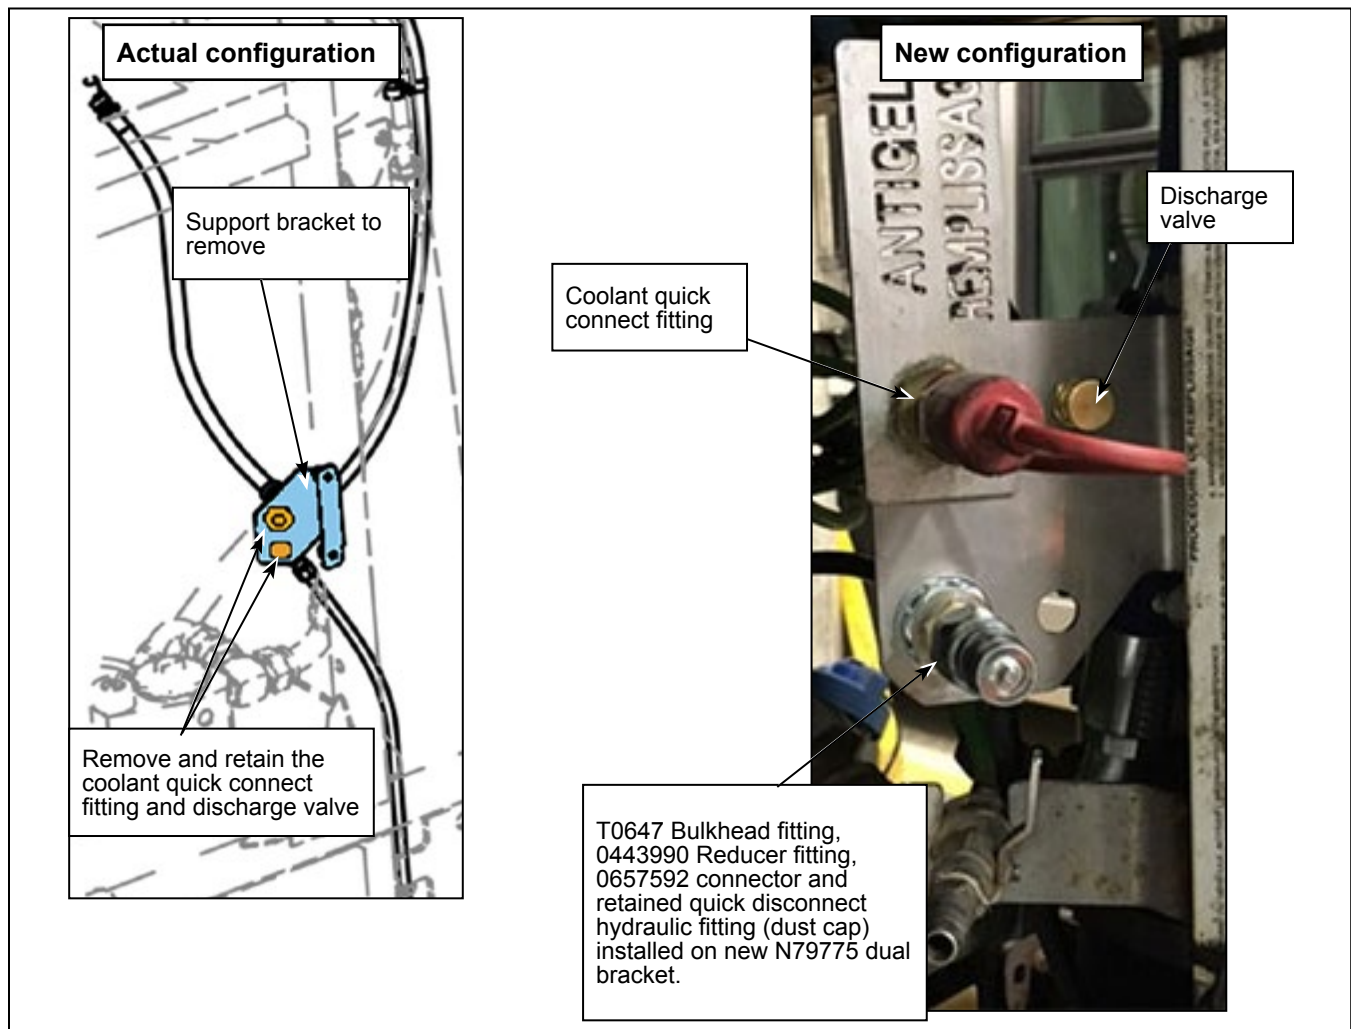

Figure 10 - Original Bracket to Remove and New N79775 Dual Bracket Installed
- 1.40. Remove the push button (N30612) from the discharge valve and remove the discharge valve from the support bracket. Retain the parts. See Figure 10.
- 1.42. Remove the coolant quick connect fitting from support bracket. See Figure 10.
- 1.43. Remove the support bracket from the frame. Retain the hardware. See Figure 10.
- 1.44. Install the new N79775 dual bracket on the frame using the retained hardware. See Figure 10.
- 1.45. Affix the removed quick connect fitting and discharge valve in the top holes of the new plate N79775. See Figure 10.
- 1.47. Install the new T0647 bulkhead fitting in the bottom left hole of the new plate N79775. See Figure 10.
- 1.48. Install the new 0443990 reducer fitting on the T0647 bulkhead fitting. See Figure 10.
- 1.49. Install the retained quick disconnect fitting and dustcap on the 0443990 reducer fitting. See Figure 10.
- 1.50. Install a new 0657592 connector fitting on the back of the bulkhead fitting T0647. See Figure 10.